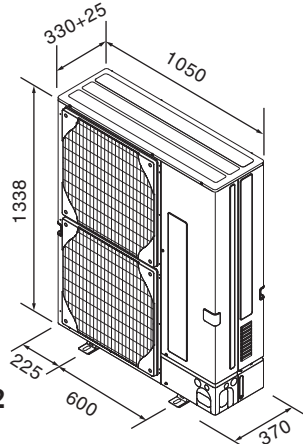

Fig. 3-2
9.3.3. Outline dimensions (Outdoor unit) (Fig. 3-2)